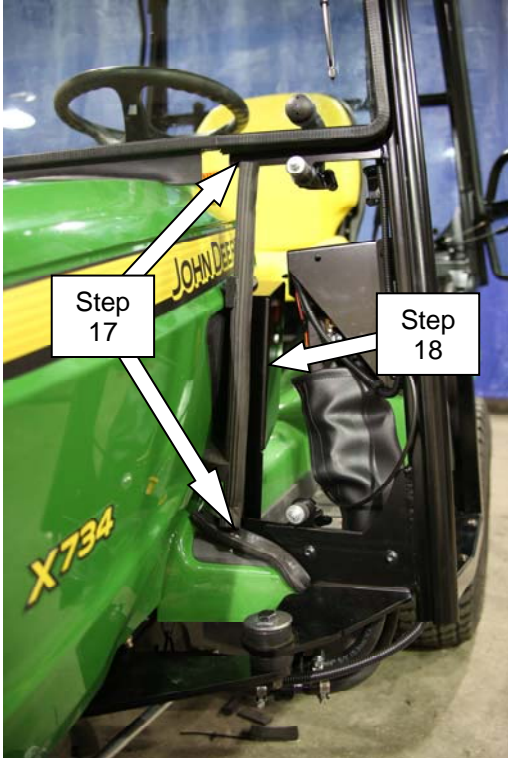

Figure 11
- 17) Install LH cowl mount bracket (14) to LH front of cab using **(Figures 11 & 12)**;
(2) ¼" hex flange nuts (P)
- 18) Install LH cowl pocket assembly (15) on LH cowl mount bracket (14) and secure using **(Figures 11 & 12)**;